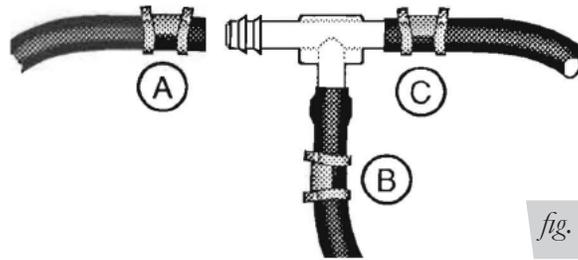

fig. 6
- D. Push the tubing over one side of the "tee" until all the barbs are covered. Repeat procedure for other leg of tee (Figure 6).
- E. With pliers slide the hose clamp forward until it fully covers the barbed section. Repeat for the other leg of tee (Figure 6).